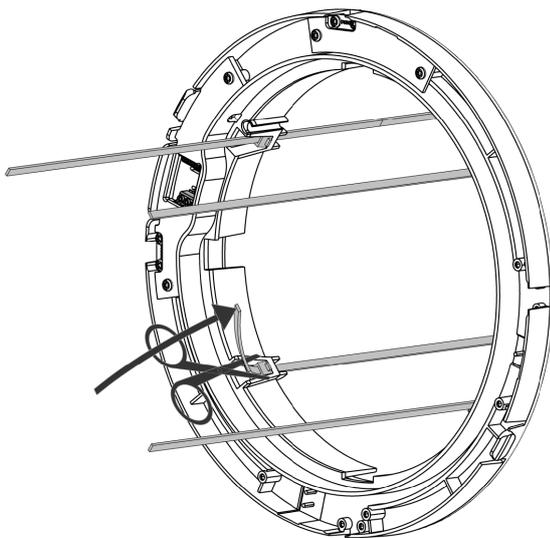
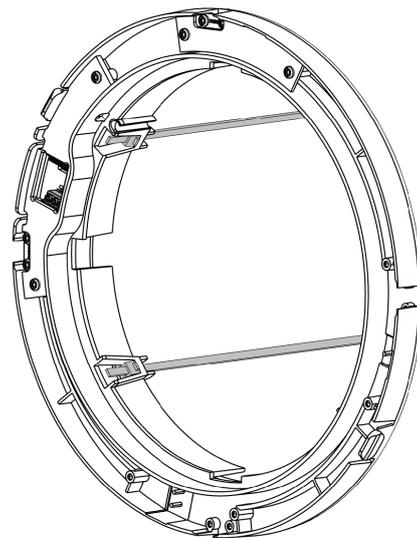

Figure 24 - Bend and cut the other strips
Figure 25 - The internal wall cover is assembled
5. Bend the end of each of the mounting strips from the outside hood to allow cutting off the unnecessary length within the "funnel" of the wall covers, see Figure 24 and Figure 25.